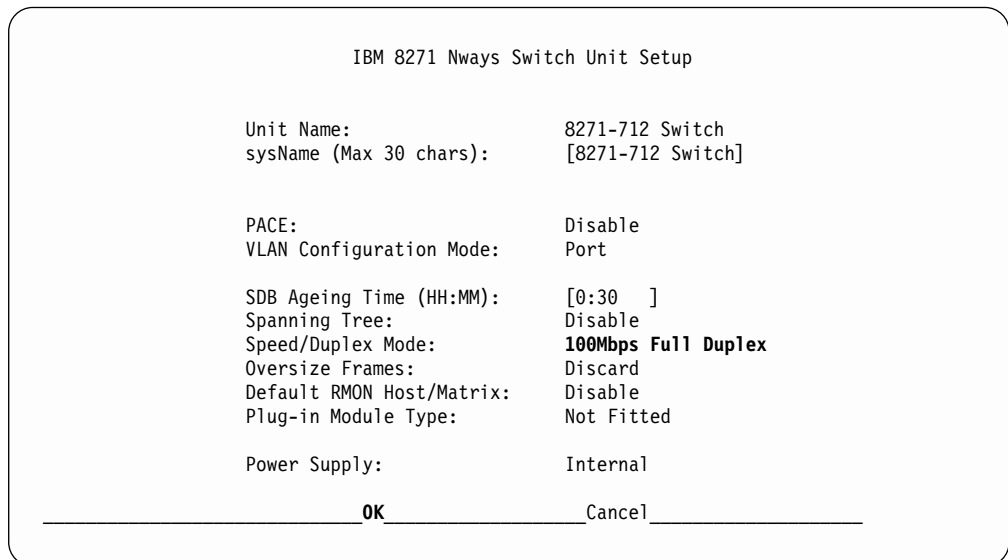

Figure 154. Nways Switch Unit Setup Menu with 100Mbps Full Duplex Selected
20. With the down arrow key, move the cursor to **Speed/Duplex Mode**. Press **ENTER**. Press the space bar to select **100Mbps Full Duplex**. Figure 154 Displays.